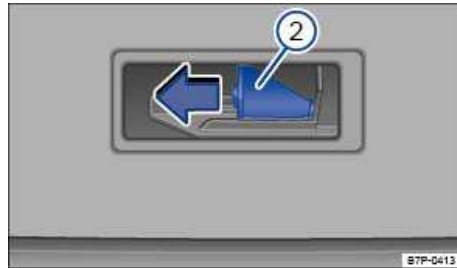

Fig. 332 Inside the luggage compartment: Release lever in the rear hatch.
- Use a small screwdriver to unlock the rear hatch, by push the release lever in direction of the arrow ⇒ fig. 332 \(2\).